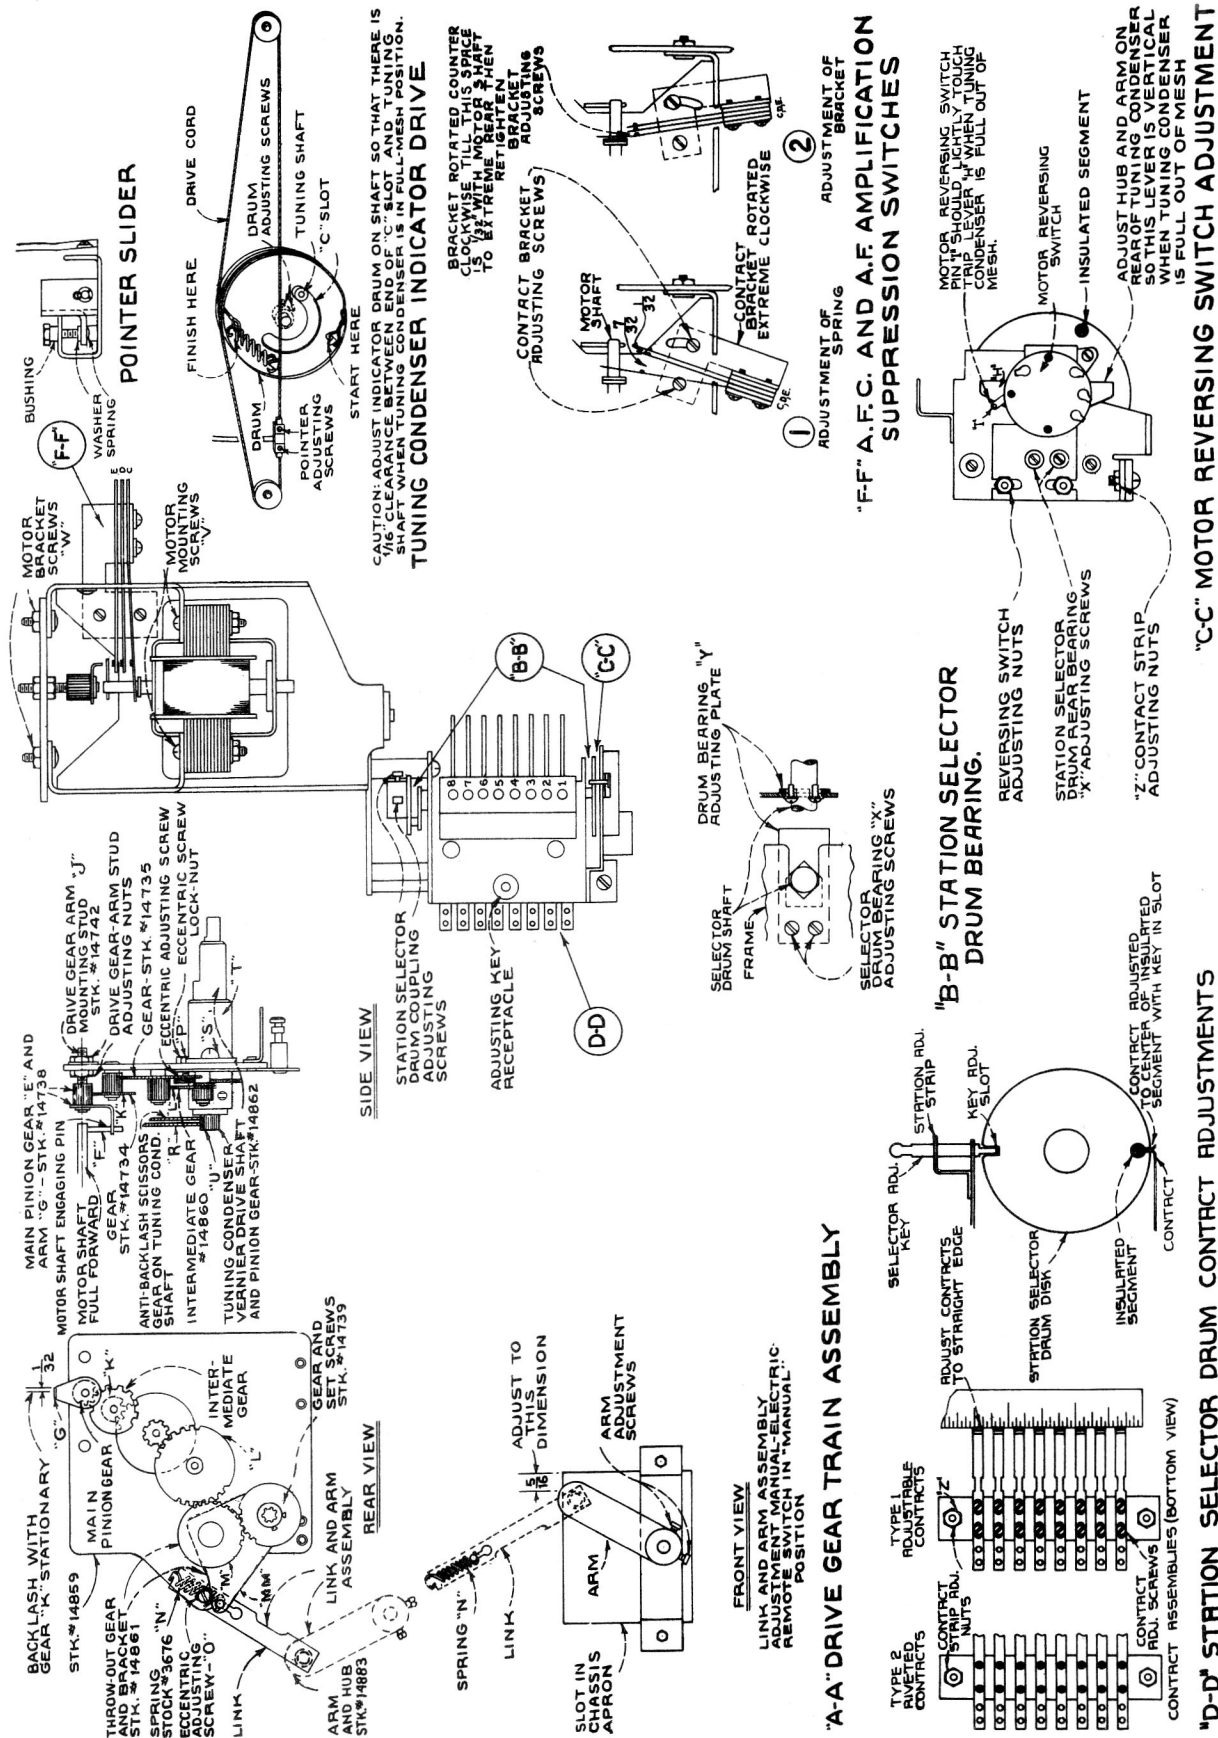

Figure 4—"Electric Tuning" Mechanism Adjustments
The electric tuning mechanism is designed to be as simple in construction and as fool proof in operation as is possible. In order to maintain the accurate results possible with this device care must be taken in effecting any repairs or adjustments. Reference should be made to figure 4 and the following:
Station Selector Drum.—(1) Bearing Adjustment—The selector drum may be removed by unscrewing the two bearing adjusting screws "X" on the front and rear bearings and sliding shaft out of slots on frame. To replace drum, the reverse procedure should be followed holding bearing adjusting plates "Y" firmly against the shaft and tightening adjusting screws. (2) Contact adjustment—Two types of contact strips are used. They are designated on figure 4, as types 1 and 2, on which the individual contacts are respectively adjustable and fixed. On type 1, the individual contacts should be adjusted by setting the end contact springs near the mid-position of their travel and aligning the remaining springs to them by means of a straight edge. Either type of contact strip should be adjusted to the selector drum by firmly placing two selector adjusting keys in the station adjustment strip, positions 1 and 8 (locking respective discs), loosening contact strip adjusting nuts "Z" and shifting the contact strip until the end contacts are exactly centered on the respective disc insulating segments. More accurate adjustment may be made by silhouetting the point of contact with a piece of white paper held behind the contact. Adjustment will be facilitated by removing complete assembly from rear of tuning condenser by unscrewing the three mounting screws. Contacts and discs must be kept free of dirt, filings, and other extraneous matter.